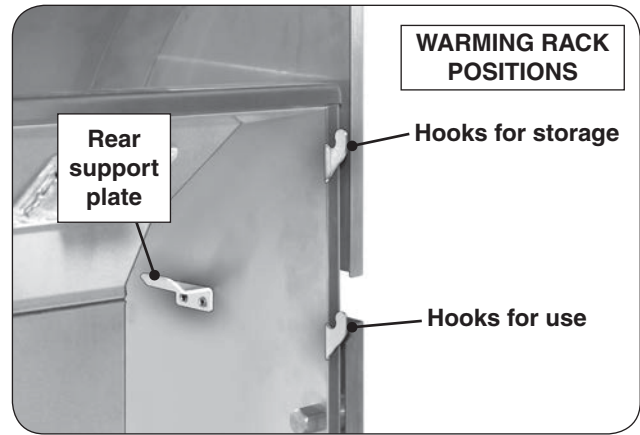
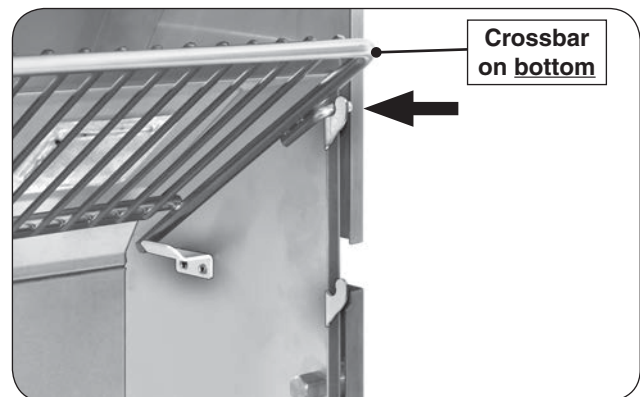

Fig. 20-1 Warming rack hooks
Fig. 20-3 Place warming rack in storage position
1. Locate the warming rack hooks and rear supports found on the upper portion of the grill oven (see Fig. 20-1).
3. Use the top hooks for storage (see Fig. 20-1 and Fig. 20-3).